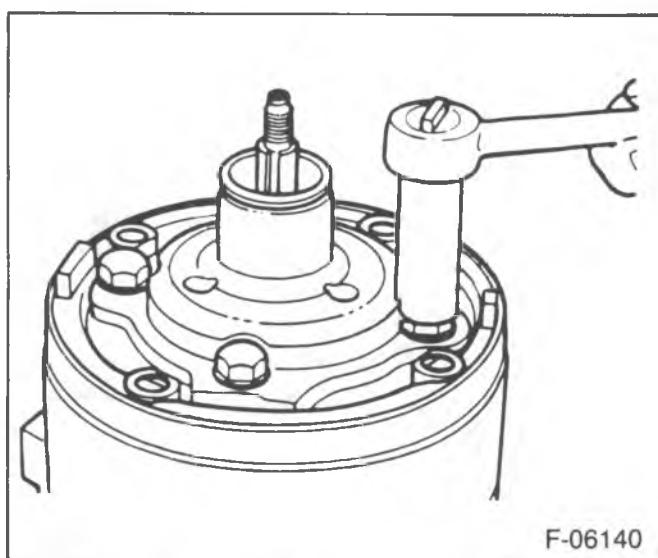

Figure 17—Removing the Front Head Mounting Screws
Remove or Disconnect (Figure 17, 18 and 19)
1. Head mounting screws (figure 17).
Install or Connect (Figures 17, 18, 25 and 26)
10. Front head mounting screws (figure 17).